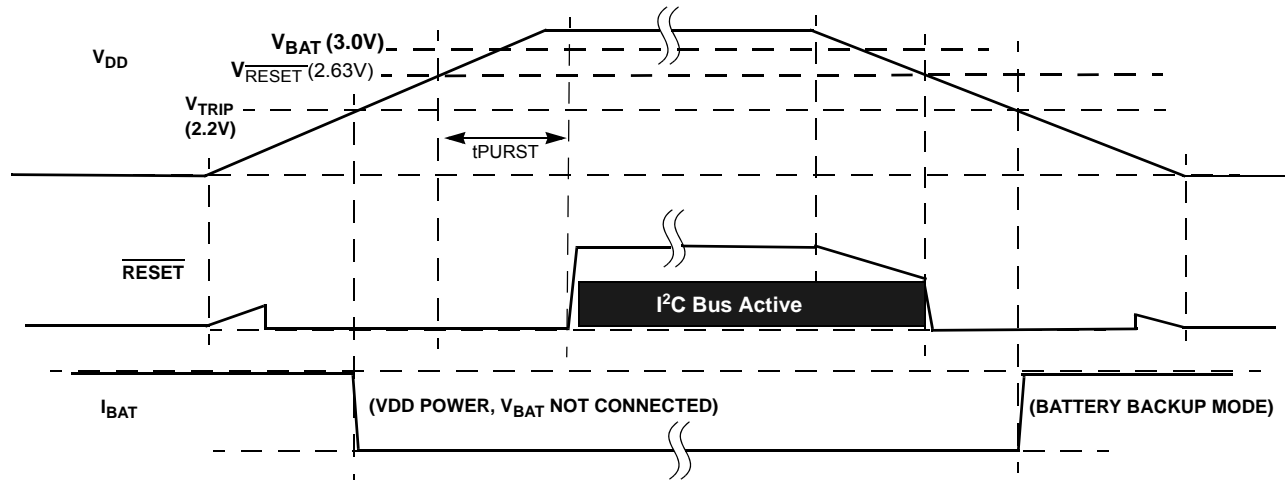

FIGURE 29. EXAMPLE RESET OPERATION IN MODE A OR C
- Mode A** - In this mode, selection bits indicate a low  $V_{DD}$  switchover combined with I2C operation in battery backup mode. In actuality the  $V_{DD}$  will go below  $V_{RESET}$  before switching to battery backup, which will disable I2C ANYTIME the device goes into battery backup mode. Regardless of the battery voltage, the I2C will work down to the  $V_{RESET}$  voltage (see Figure 29).
- Mode D** - In this mode, the selection bits indicate switchover to battery backup at  $V_{DD} < V_{BAT}$ , and no I2C communications in battery backup. This mode is unique in that there is I2C communication as long as  $V_{DD}$  is higher than  $V_{RESET}$  or  $V_{BAT}$ , whichever is greater. This mode is the safest for guaranteeing I2C communications only when there is a Valid  $V_{DD}$  (see Figure 29).